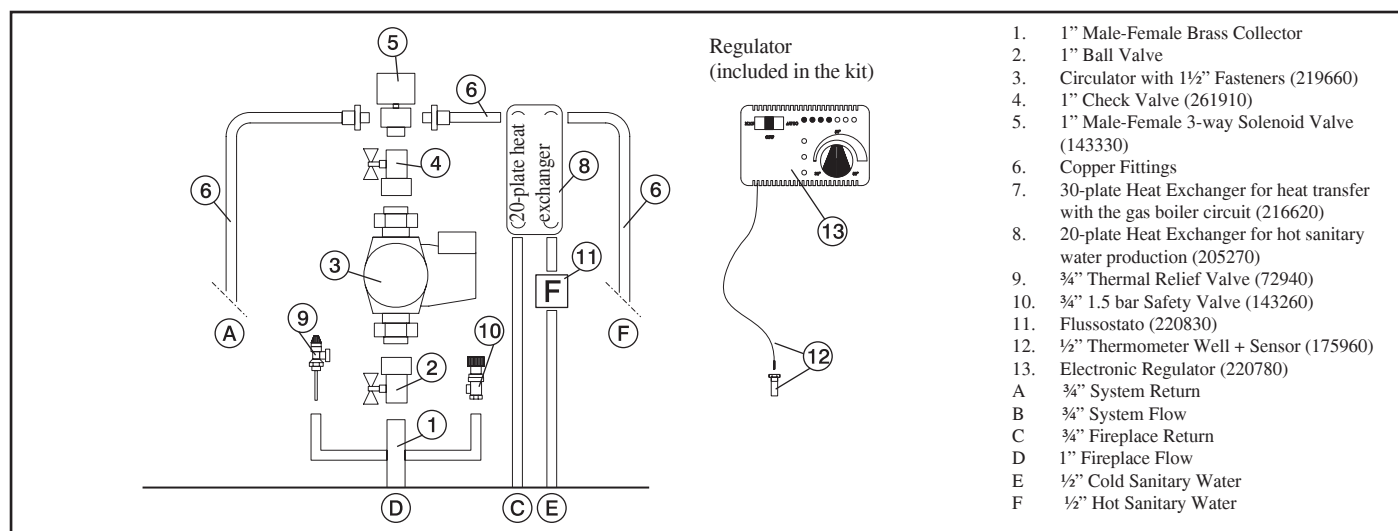

fig. 12
- Insert the "cold handle" door handle on the latch between the structure and the door and turn to open (fig. 12).